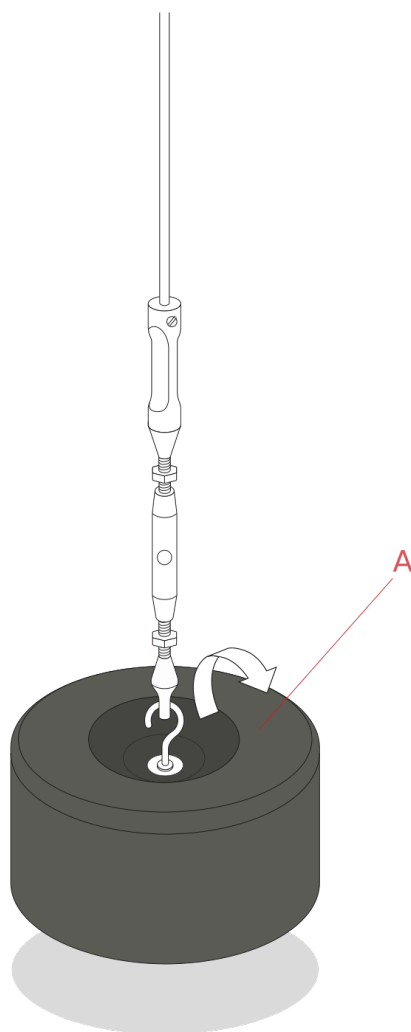

Fig.1
**WARNING!** Lifting up the counterweight will cause mechanical tension loss of the suspension wire, causing the tube and lamp support to fall down. (Fig.1 page 10)